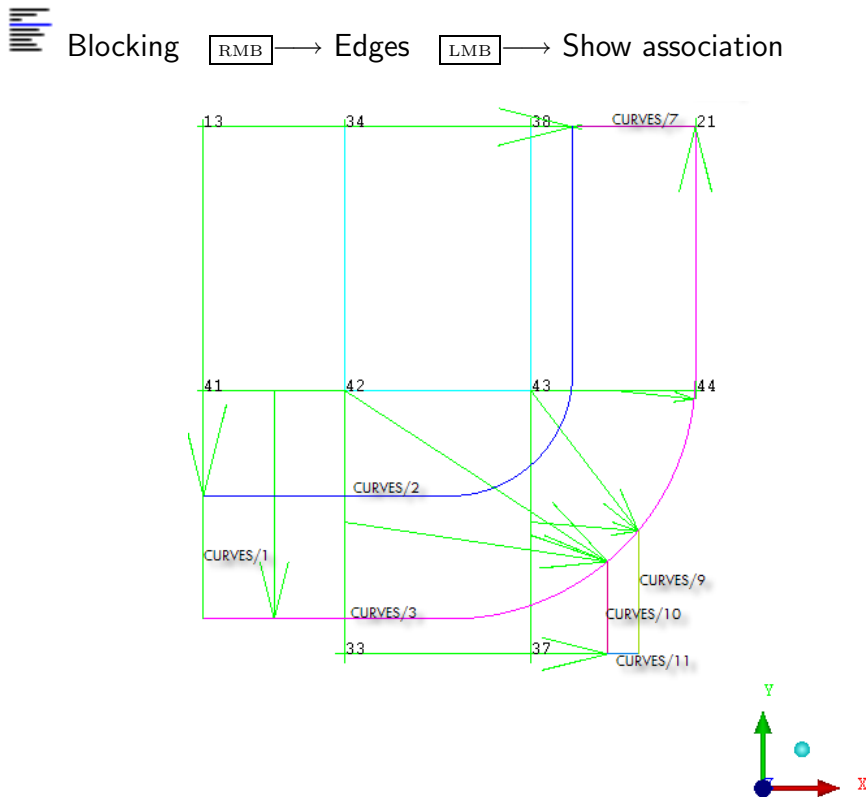

Figure 12: Projection of Edges to Curve
- 4. Verify that the correct associations have been set (Figure 12).